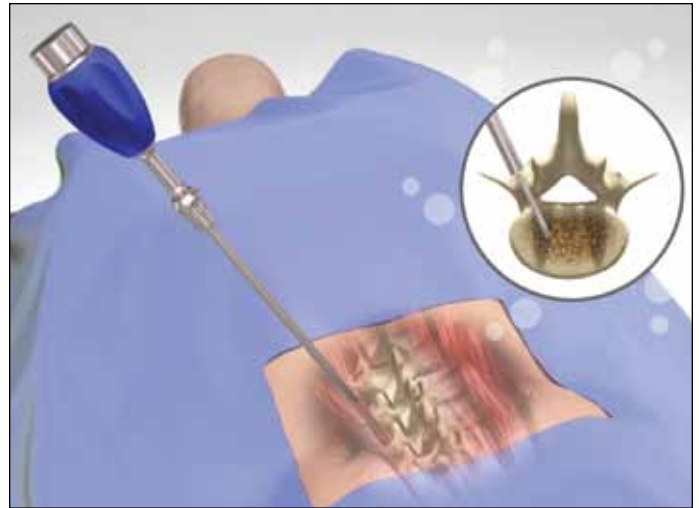

FIG. 5
- Using AP imaging, advance the Cannulated Awl through the incision point until bony contact is made. (FIG. 5)